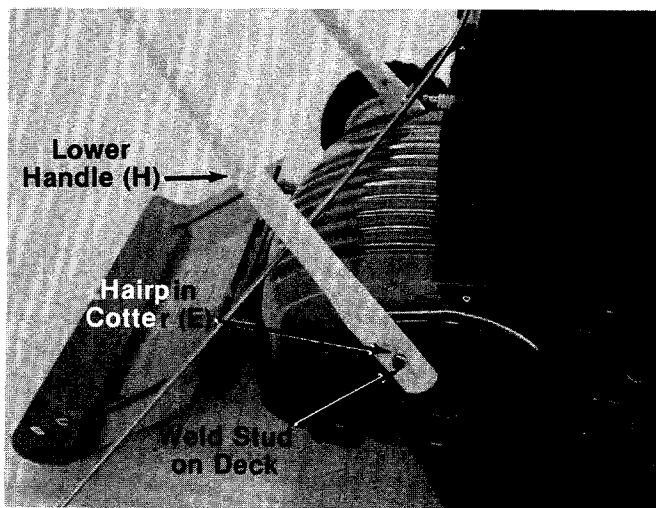

FIGURE 3.
3. Place lower handle (H) in position over studs located in front of each rear wheel mounting position. Secure with hairpin cotter (E) provided in hardware pack. See figure 3.
Figure 3 was photographed with the rear wheel removed for clarity. It is not necessary to remove wheel for handle assembly.
Adjustment may be made by removing and moving wheel studs to desired position. Cutting heights will be raised as wheel studs are moved to a lower hole and lowered as wheel studs are moved to a higher hole in the deck. All wheel studs must be mounted in a relative position to the deck. See figure 3.